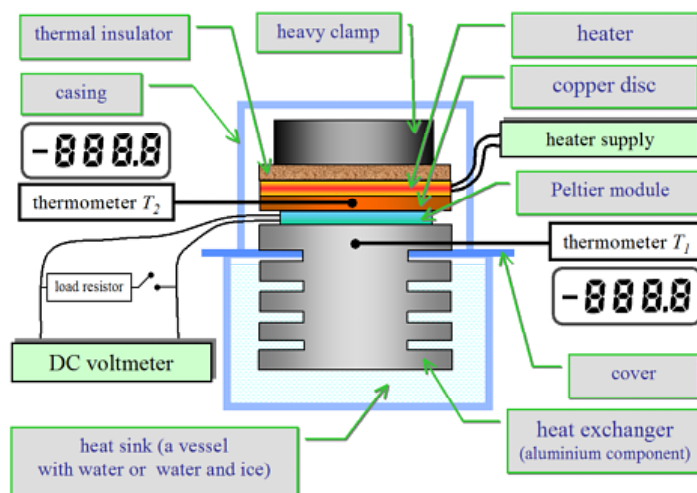

Fig. 2. A diagram for investigation of the electric current generation and for a determination of the Seebeck coefficient.
- connect the load resistor to the thermoelectric module output and connect a voltmeter in parallel to the resistor (Fig. 2) in the setup assembled as in Point 4.1.1.